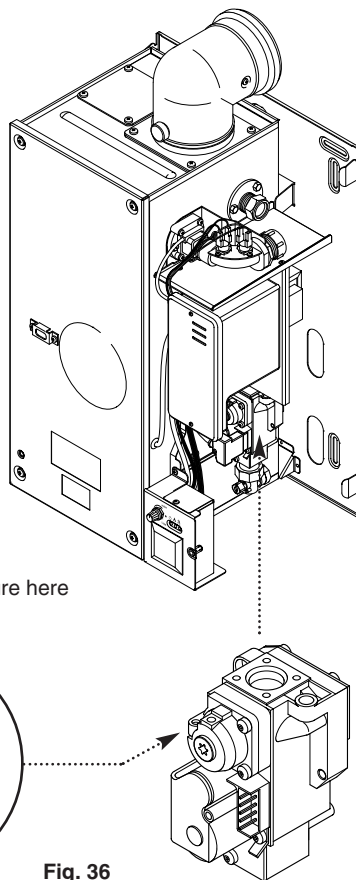

Fig. 36
7. With the system cold and all controls calling for heat check the gas pressure at the inlet tapping of the gas valve (Fig. 36). The pressure must be a minimum of 18.1 mbar.